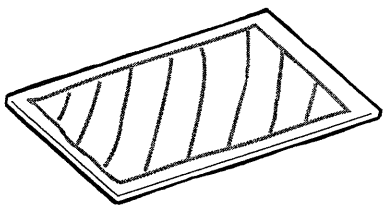

Figure 6
21. **Apply panel adhesive** in a solid bead all around the perimeter, about one inch from the edges. Be sure that the bottom edge of your adhesive is higher than the vapor gap cutout on your wall. Then apply the adhesive in diagonal lines across the center of the sheet. See figure 6. Don't scribble or draw pictures! They could show through!